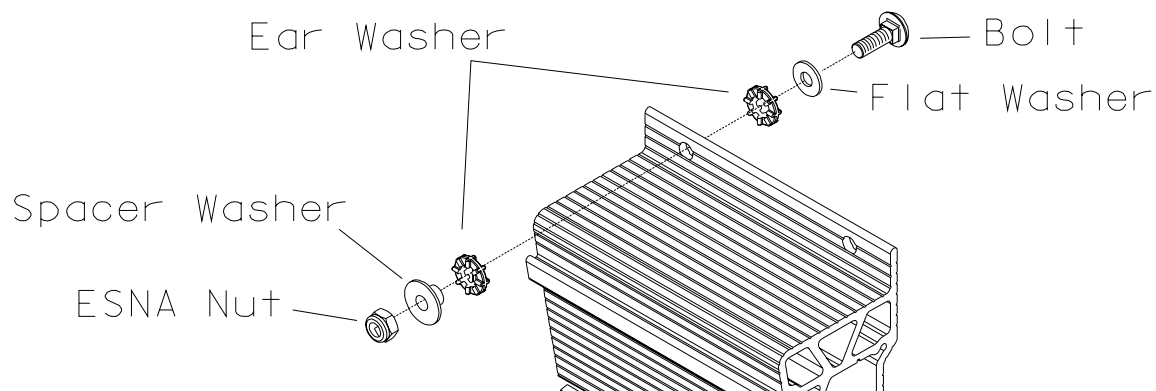

Figure 8 - Block shown without camera beam attached for clarity
2. Pre-assemble hardware to the beam mounting block as shown in Figure 8. Use one (1) 5/16-18x1.0 inch carriage bolt, one (1) flat washer, two (2) flexible washers, one (1) spacer washer and one (1) ESNA nut in each of the four mounting holes.